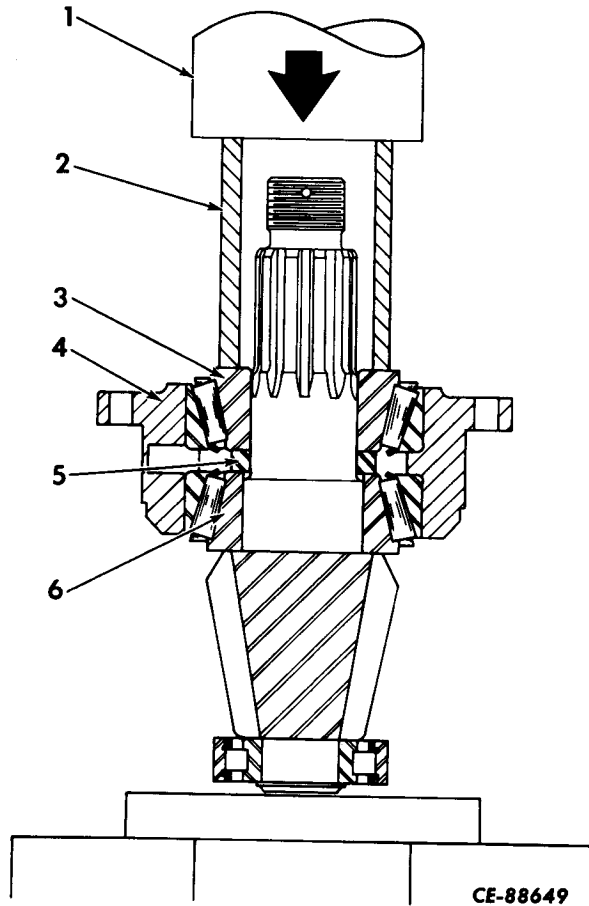

Figure 6-22
Install spacer (5, Fig. 6-22) on pinion shaft and place entire assembly in bearing cage (4).